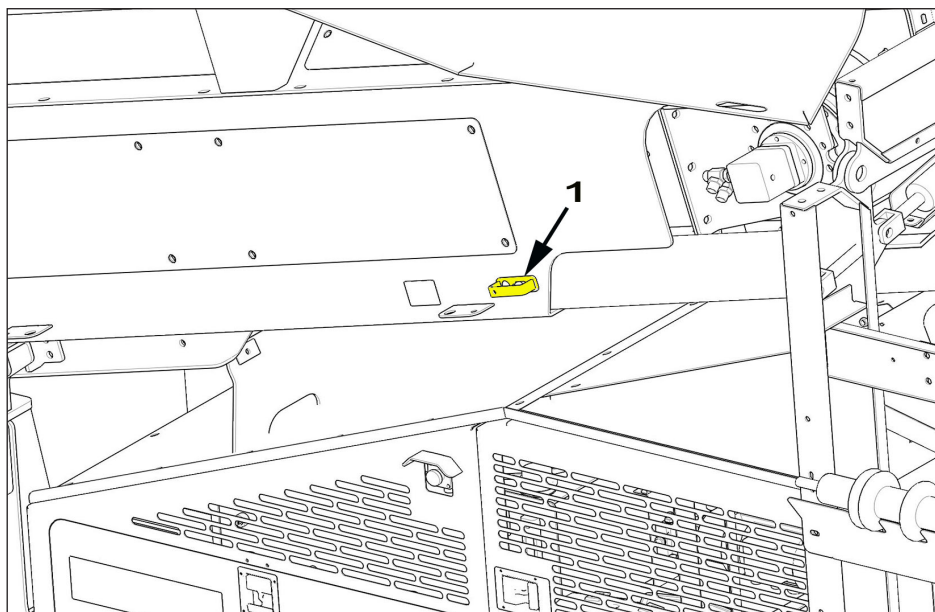

Figure 4.90 - Feed Conveyor Transport Position
1. To Slide feeder conveyor forward for operation first remove locating pin (1) from its transport position Figure 4.90.
2. Slide the feeder conveyor forward using lever (1) Figure 4.90.
3. When conveyor is fully forward fit locating pin (1) Figure 4.90 to prevent Feed Conveyor creeping back over time.